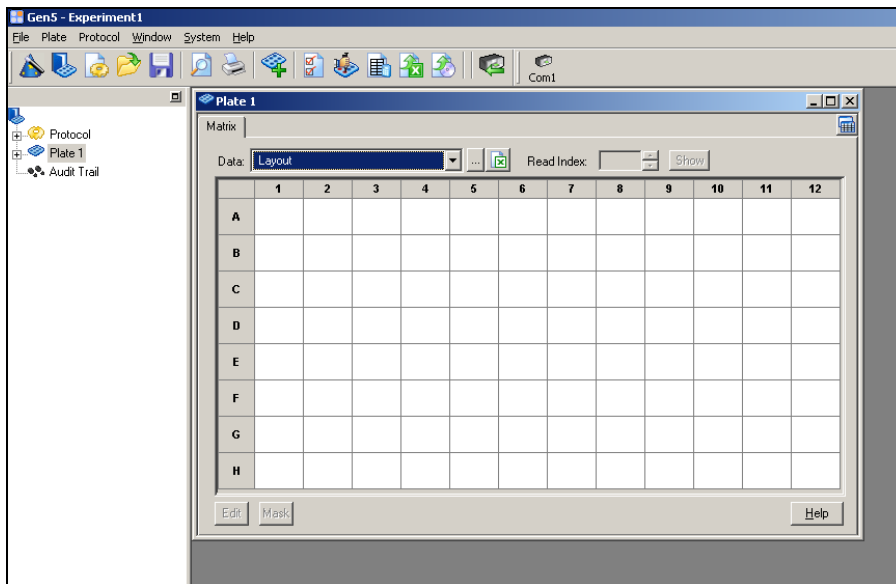

Figure 23: Experiment workspace
- If the Plate screen initially opened in 96-well layout (see **Figure 23** on page 179), the screen will change to 384-well layout.